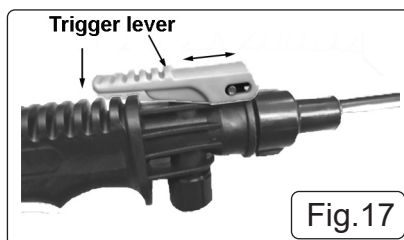

Fig.17
6.2.1. To operate the sprayer depress the trigger lever to spray, then release the trigger lever to stop (fig 17).
6.2.3. To lock off pull the trigger lever back and release (fig 17).